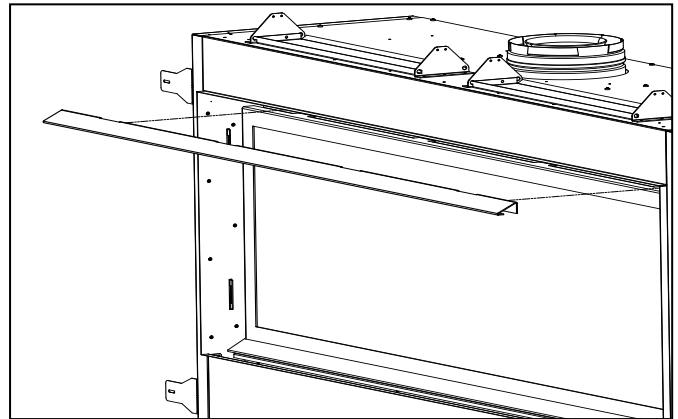

Figure 21: Discharge Accelerator Removal
3. There is a CSS cover on the inner top of the cabinet that must be removed. It is attached using #8 T20 screw. Remove these screws and remove the cover (see Figures 21 & 22).